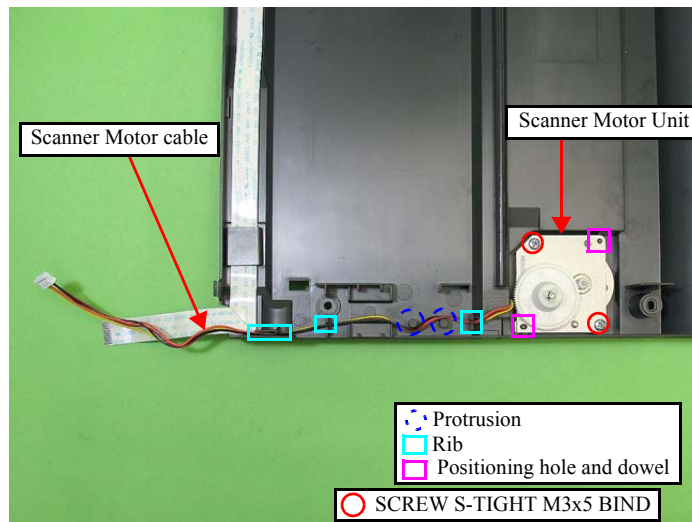

Figure 4-114. Removing the Scanner Motor Unit
- When installing the Scanner Motor Unit, align each dowel at the bottom of the Scanner Housing with their positioning holes of the Scanner Motor Unit. (See Fig.4-114.)
- Route the Scanner Motor cable through the three ribs and the two protrusions at the bottom of the Scanner Housing. (See Fig.4-114.)